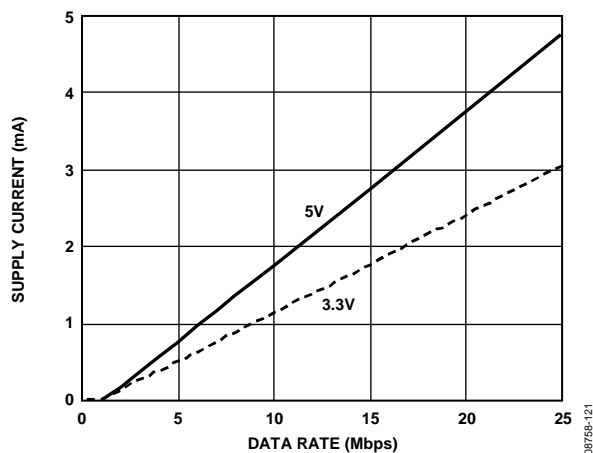
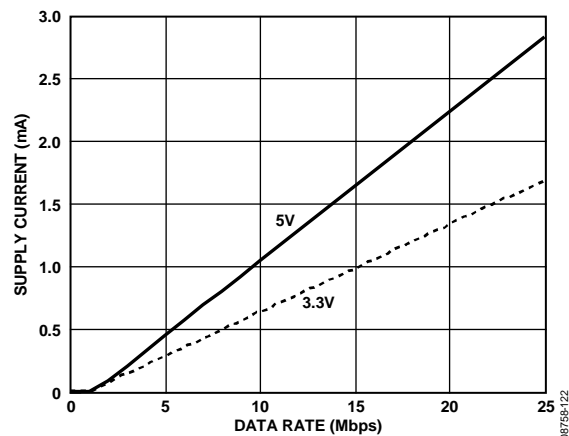

Figure 21. Typical  $I_{ISO(D)}$  Dynamic Supply Current per Input
Figure 22. Typical  $I_{ISO(D)}$  Dynamic Supply Current per Output (15 pF Output Load)
$I_{ISO (D)n}$  is the dynamic load current drawn from  $V_{ISO}$  by an input or output channel, as shown in Figure 21 and Figure 22.